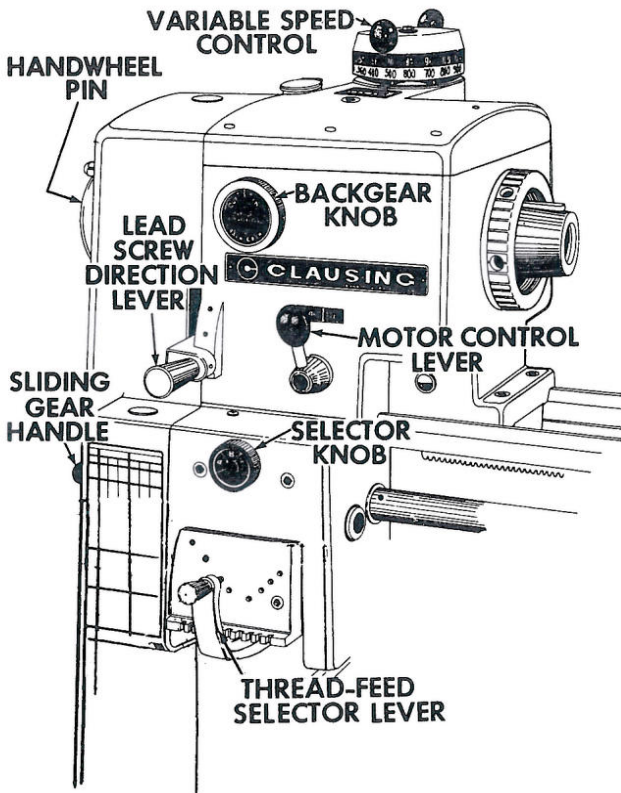

Figure 7
See figure 7 for the location of the controls described below. Their positions for thread or feed selected are shown on chart.
MOTOR CONTROL LEVER located on front of headstock controls rotation of lathe spindle. It has three positions -- REVERSE, OFF, and FORWARD -- refer to figure 7.
- A. Move thread-feed selector handle to the number position indicated on chart -- refer to figure 7.